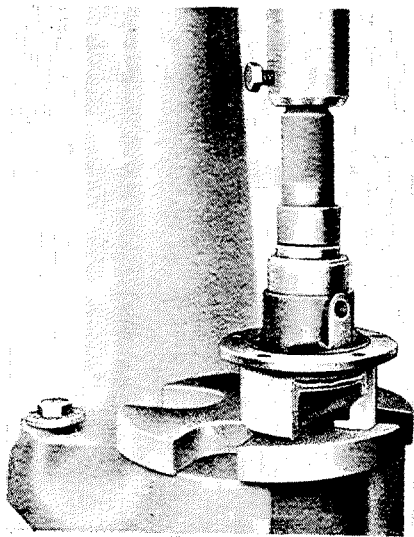

Fig. M 45/12
12. Push ball bearing on shaft and press into the housing with tool 187 589 04 39 (Fig. M 45/12).
13. After the rear ball bearing has been pressed in, check distance between bearing housing flange and taper of impeller; it should be 23 ± 0.2 mm (0.905 ± 0.008 "). See Figs. M 45/00 and 01.